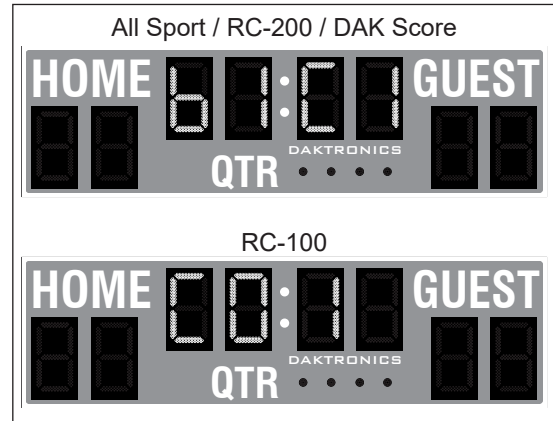

Figure 12: Radio Settings in Clock Digits
- If there is a clock, the settings appear in the first four clock digits (Figure 12).
- When using the **RC-100** hand-held controller, the display will show “CXX”, where the XX is a channel from 01-15 (Figure 12). The default is channel 01.